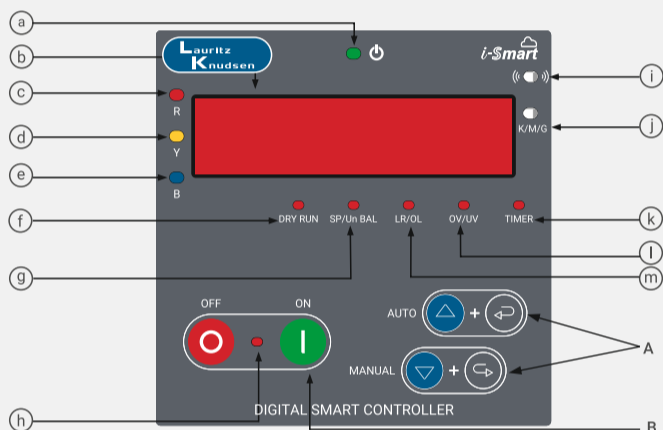

Fig 1.0
There are total 6 keys given on the front panel of Digital Smart Controller – UP (Up), DOWN (Down), ENTER (Enter), ESC (Esc), ON (ON) and OFF (OFF) ref fig 1.0. User can perform PUMP ON and PUMP OFF operation using ON and OFF push buttons. UP, DOWN, ENTER and ESC push buttons are used for navigation and changing mode. Digital Smart Controller has four types of navigation screens: